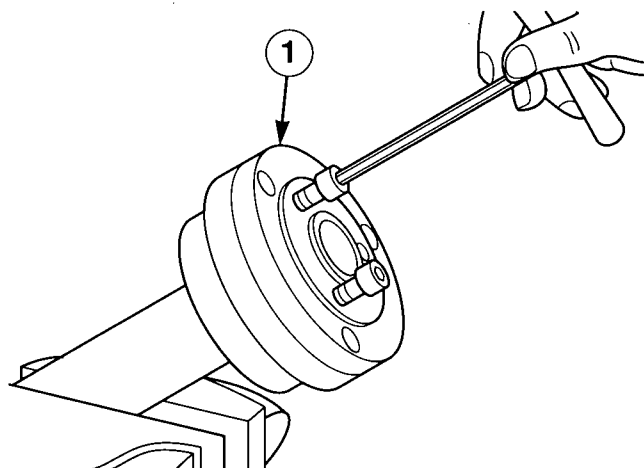

Figure 39 — Removing drive cap. (1) Drive Cap.
9. **Remove the three socket head cap screws in the drive cap** and insert two of them into two of the holes provided for the gear fasteners (Figure 39). Turn these screws until drive cap releases from spindle. Remove screws.